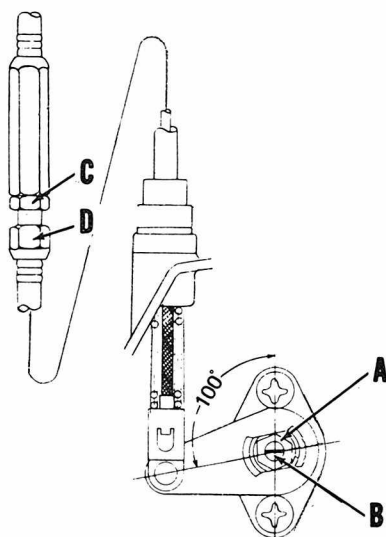

Fig. K6-7—Clutch adjustment on Kawasaki H1. Refer to text for procedure.
**CLUTCH CONTROLS.** Remove drive sprocket cover and loosen lock nut (A—Fig. K6-7). Back adjusting screw (B) out until it is loose. Adjust cable at adjuster (D) until angle between clutch release arm and base plate is 100 degrees then tighten lock nut (C). Turn adjusting screw (B) in until a resistance is felt then tighten lock nut (A). Adjust cable at clutch lever on handle to obtain  $\frac{5}{32}$  inch free play at pivot.